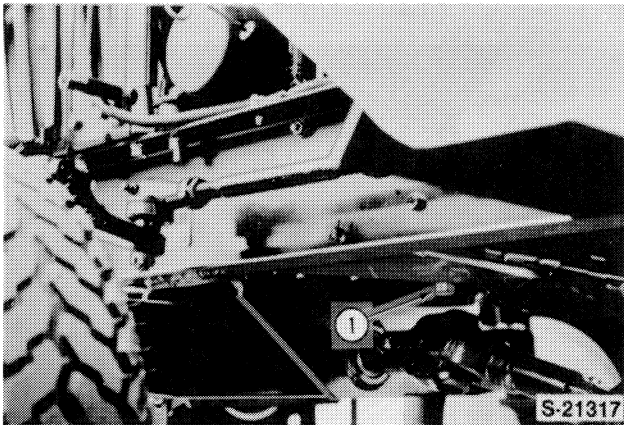

Figure 7
- 6. Drain the engine crankcase oil, Figure 7.